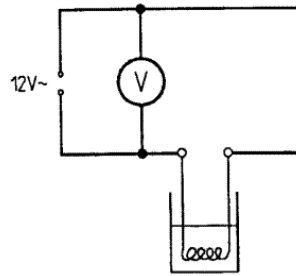

Fig. 1
- If the voltage at the heating coil is also to be measured, this must be done after the experiment has been carried out and with the heating coil connected (Fig. 1, other teacher information 5/5). The heating coil must be immersed in water! However, the value measured in this way does not correspond exactly to the voltage actually applied to the heating coil during the experiment, since the voltage drop at the ammeter is approx. 0.2 V.